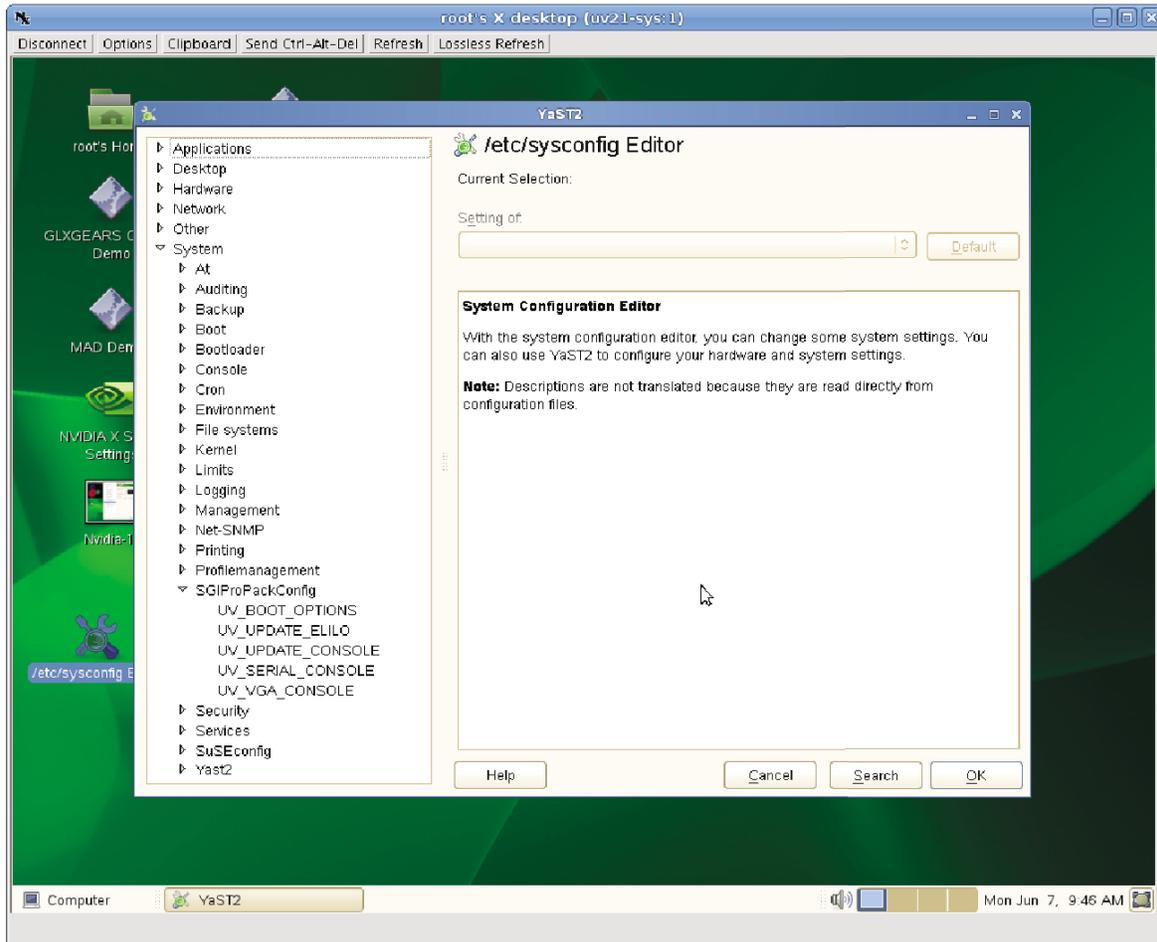

Figure 2-8 YaST2 System Configuration Editor Screen
9. Launch the YaST2 System Configuration Editor shown in Figure 2-8 on page 35.